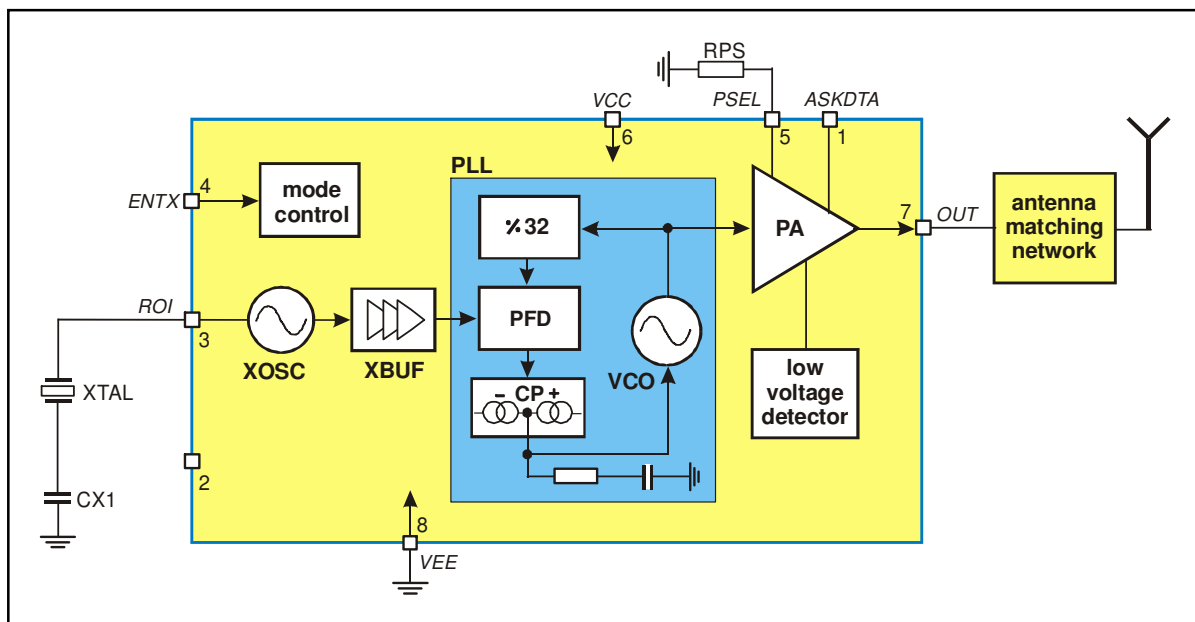

Fig. 1: Block diagram with external components
As depicted in Fig.1, the TH72012 transmitter consists of a fully integrated voltage-controlled oscillator (VCO), a divide-by-32 divider (div32), a phase-frequency detector (PFD) and a charge pump (CP). An internal loop filter determines the dynamic behavior of the PLL and suppresses reference spurious signals. A Colpitts crystal oscillator (XOSC) is used as the reference oscillator of a phase-locked loop (PLL) synthesizer. The VCO's output signal feeds the power amplifier (PA). The RF signal power P_{out} can be adjusted in four steps from $P_{out} = -12$ dBm to $+10$ dBm, either by changing the value of resistor RPS or by varying the voltage V_{PS} at pin PSEL. The open-collector output (OUT) can be used either to directly drive a loop antenna or to be matched to a 50Ohm load. Bandgap biasing ensures stable operation of the IC at a power supply range of 1.95 V to 5.5 V.